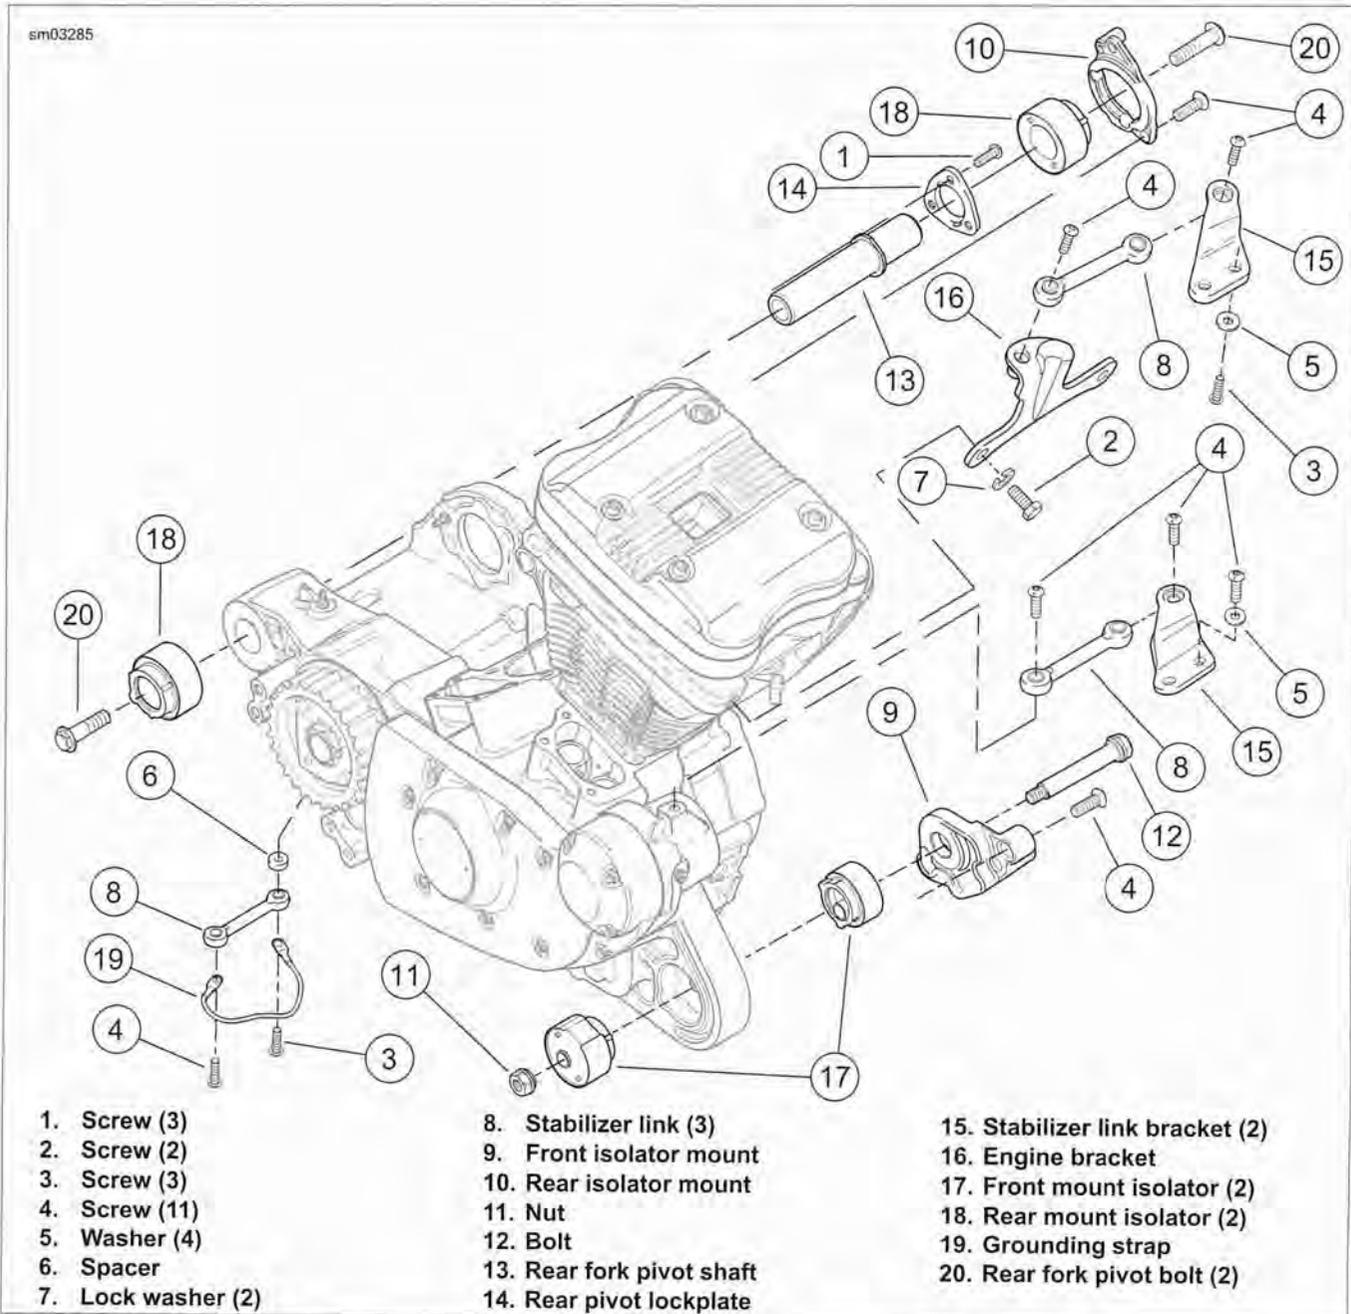

Figure 1-85. Engine Mounting Assemblies: All Models (typical)
1. See Figure 1-85. Check for cracks or tears in engine mount isolator rubber (17, 18).
2. Check for lateral movement at each end of the three stabilizer links (8). Any lateral movement indicates the need